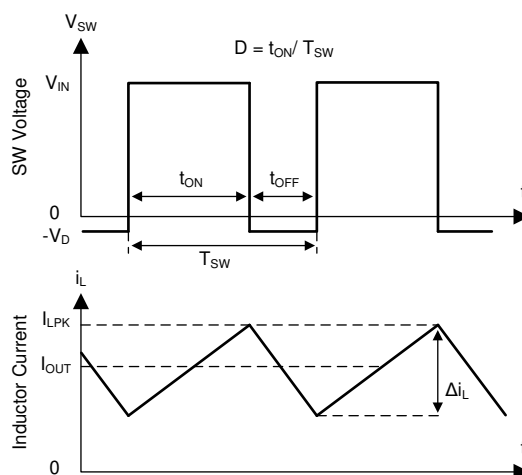

图 7-1. SW Node and Inductor Current Waveforms in Continuous Conduction Mode
The following operation description of the LM76005 refers to § 7.2 and to the waveforms in 图 7-1. The LM76005 supplies a regulated output voltage by turning on the internal high-side (HS) and low-side (LS) NMOS switches with varying duty cycle (D). During high-side switch on-time, t_{ON} , the SW pin voltage V_{SW} swings up to approximately V_{IN} , and the inductor current, i_L , increases with linear slope. The HS switch is turned off by the control logic. During the HS switch off-time, t_{OFF} , the LS switch is turned on. Inductor current discharges through the LS switch, which forces the V_{SW} to swing below ground by the voltage drop across the LS switch. The regulator loop adjusts the duty cycle to maintain a constant output voltage. The control parameter of a buck converter is defined as duty cycle $D = t_{ON} / T_{SW}$. In an ideal buck converter, where losses are ignored, D is proportional to the output voltage and inversely proportional to the input voltage: $D = V_{OUT} / V_{IN}$.